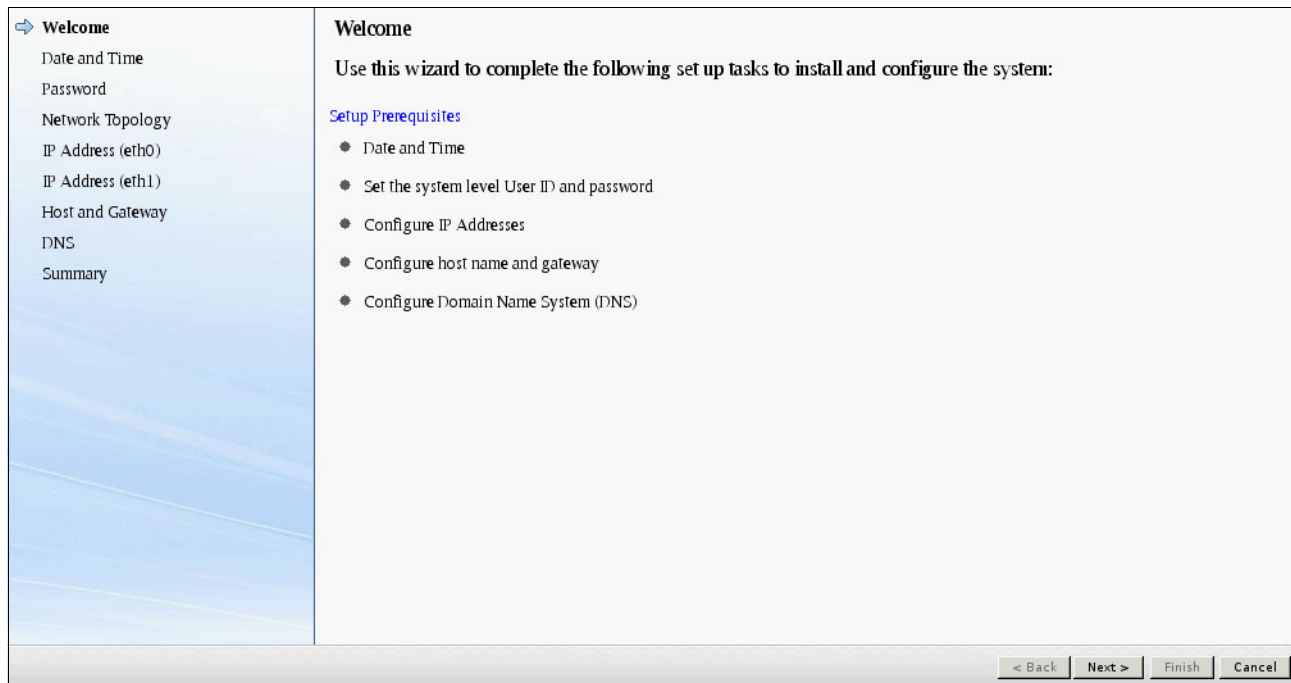

Figure 6-7 FSM Welcome window
5. Click **I agree** to continue. The startup wizard's Welcome window opens as shown in Figure 6-7. Click **Next**.